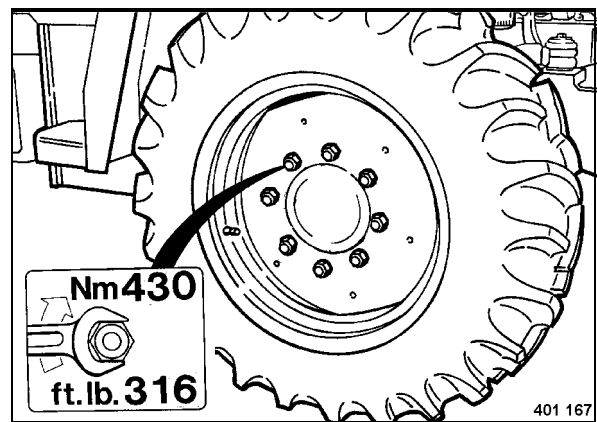

Fig. 144
- Attach the new wheel (Fig. 144) and tighten the wheel nuts crosswise with a torque of 430 Nm (316 ft. lb.) anziehen.